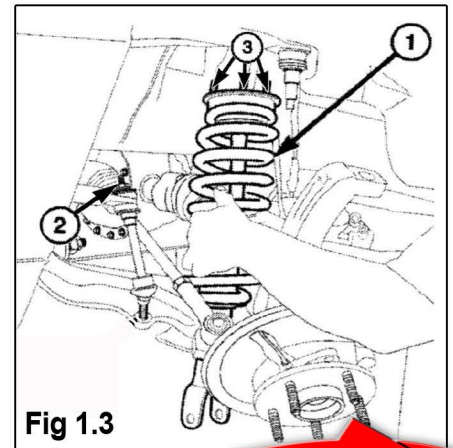

Fig 1.3
6. Remove upper sway bar nuts at control arm 16 mm socket and 18mm wrench (#2 Fig. 1.3)
10. Remove three upper strut mounting nuts (#3 Fig 1.3) Lower A-Arm to allow strut removal. Use **CAUTION** when removing upper strut mounting nuts. **STRUT MAY FALL AND DAMAGE STEERING AND /OR CV AXLE BOOTS IF NOT SUPPORTED** Gently lower strut assembly and guide it up and out between upper A arm.